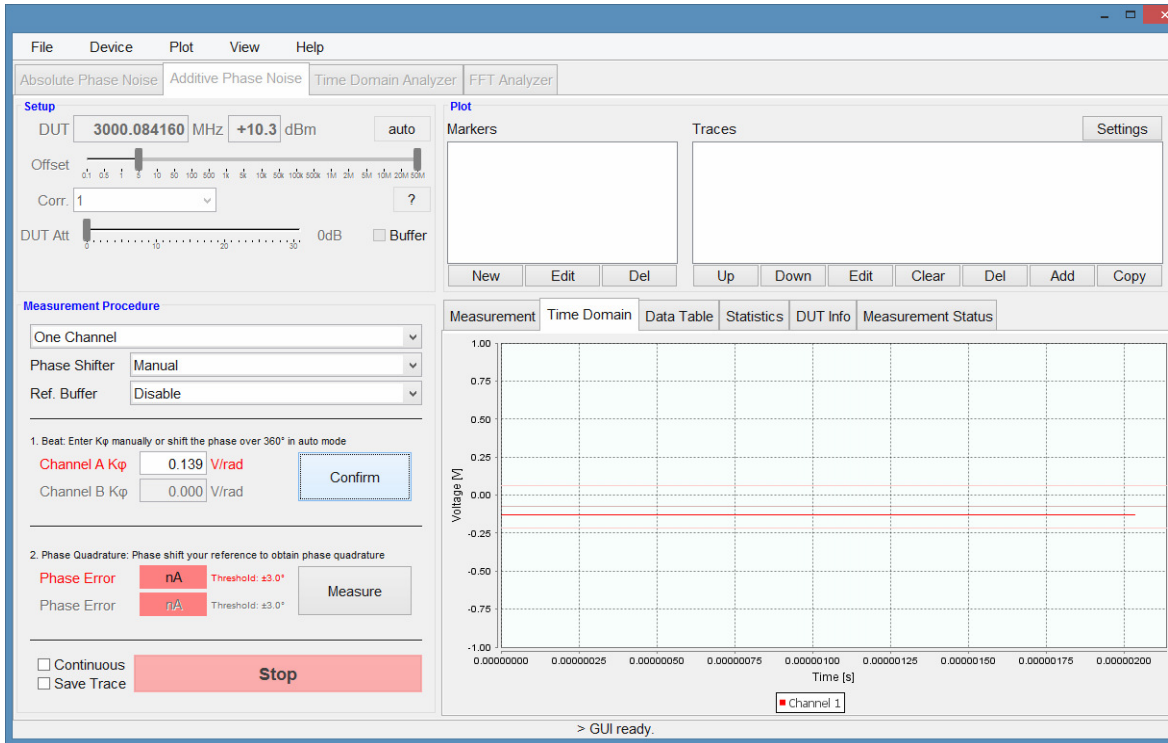

Figure 4: Rotating Phase at the Phase Detector
3. Once the setup is completed, the calibration procedure is started by clicking on the first “Measure” button. Using the phase shifter, the phase is now rotated continuously over 360 degrees to determine the phase detector constant (see Figure 4). Complete the calibration step by clicking on the corresponding “Confirm” button.